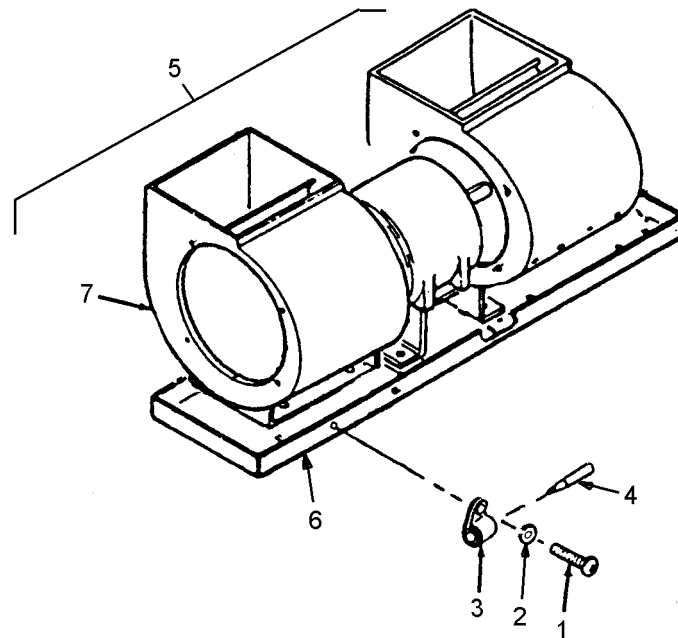

Figure 1
**REMOVAL AND INSPECTION****Temperature Selector Switch Electronic Probe (Figure 1)**
1. Loosen screw (1) and washers (2) to release electronic probe (4) from clamp (3) on evaporator fan assembly (5) located under left scroll (7).